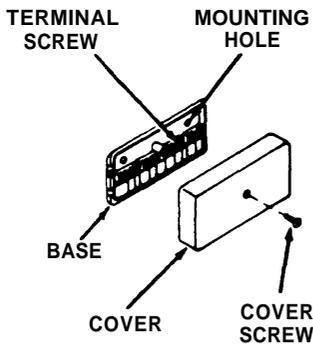

Figure 1
1. Loosen the center screw on the block's cover; remove the cover (see Figure 1).